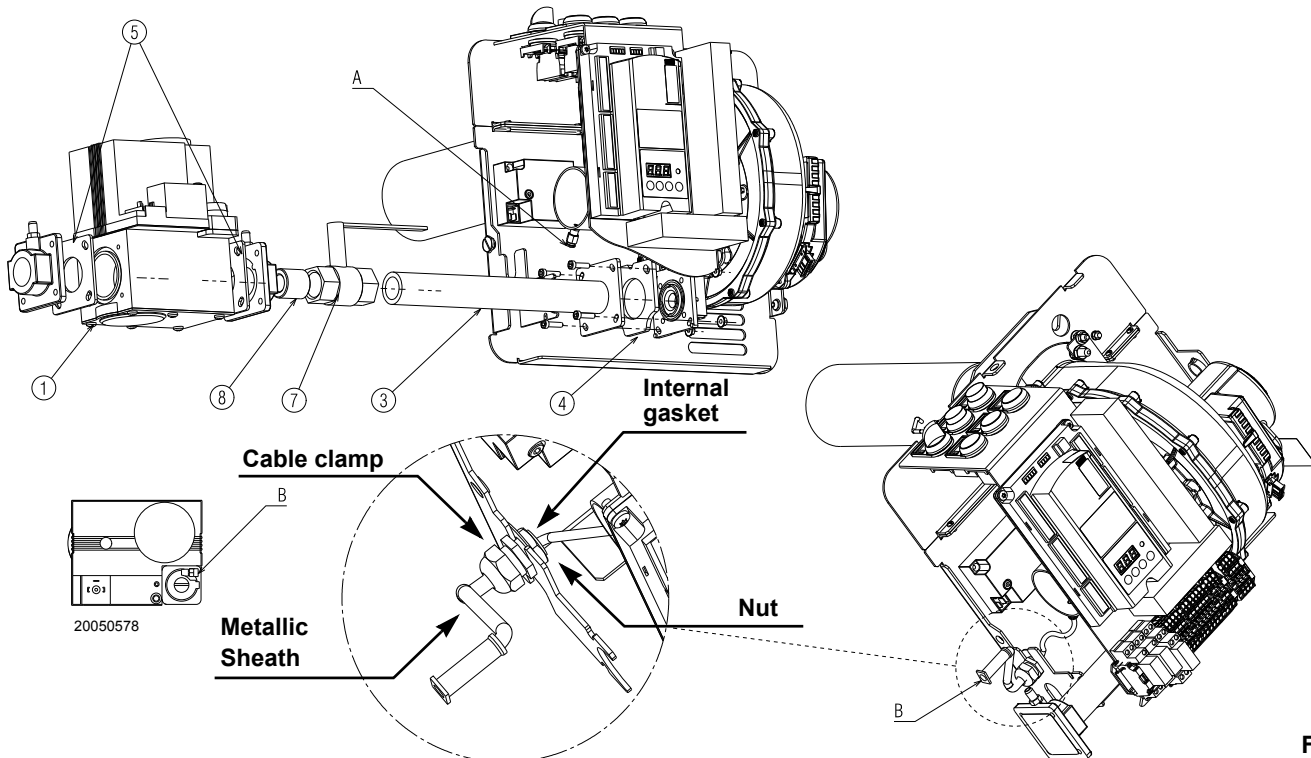

Fig. 13
- Fix the train assembly 1)(Fig. 13). Interpose the gas pipe 3) nuts and the groover washer 4), the manual valve 7) and nipple 8) (if required).